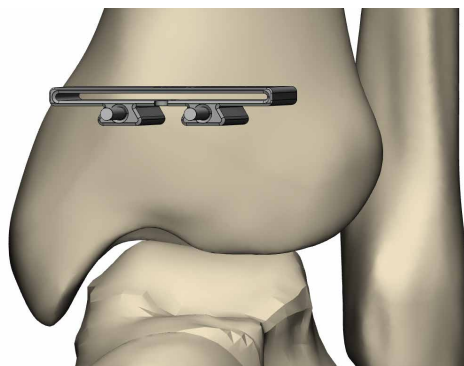

Fig. 4.4
- 4.4.** If using the flat cut guide in conjunction with the Half Pill implant, place the flat cut guide at the desired proximal resection margin. Insert two 2.4mm guidewires through the holes in the flat cut guide. (fig. 4.4). Use the flat cut guide to direct saw blade for proximal resection.